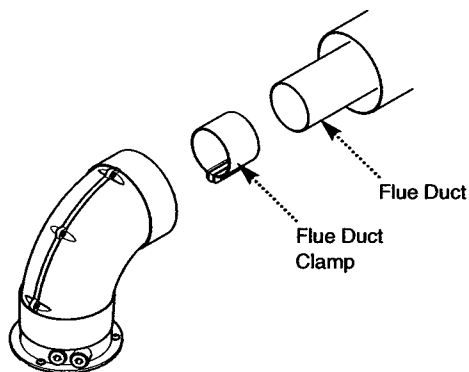

Fig. 24
12. Locate the flue duct clamp on the flue outlet elbow. Draw the flue duct out of the air duct, engage it in the clamp and tighten the screws (Fig. 24).